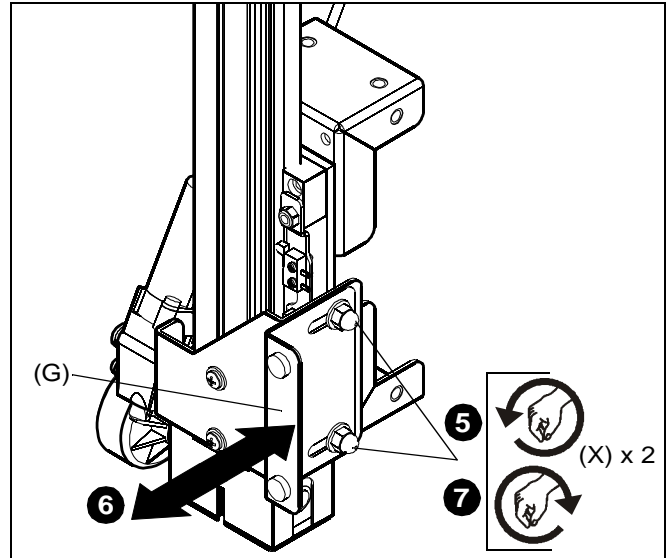

Figure 13
5. Loosen acorn nuts on lower art support bracket (G). (See Figure 13)
6. Adjust lower art support bracket against back of art so that art hangs plumb with the CM5. (See Figure 13)
7. Tighten acorn nuts (X). (See Figure 13)